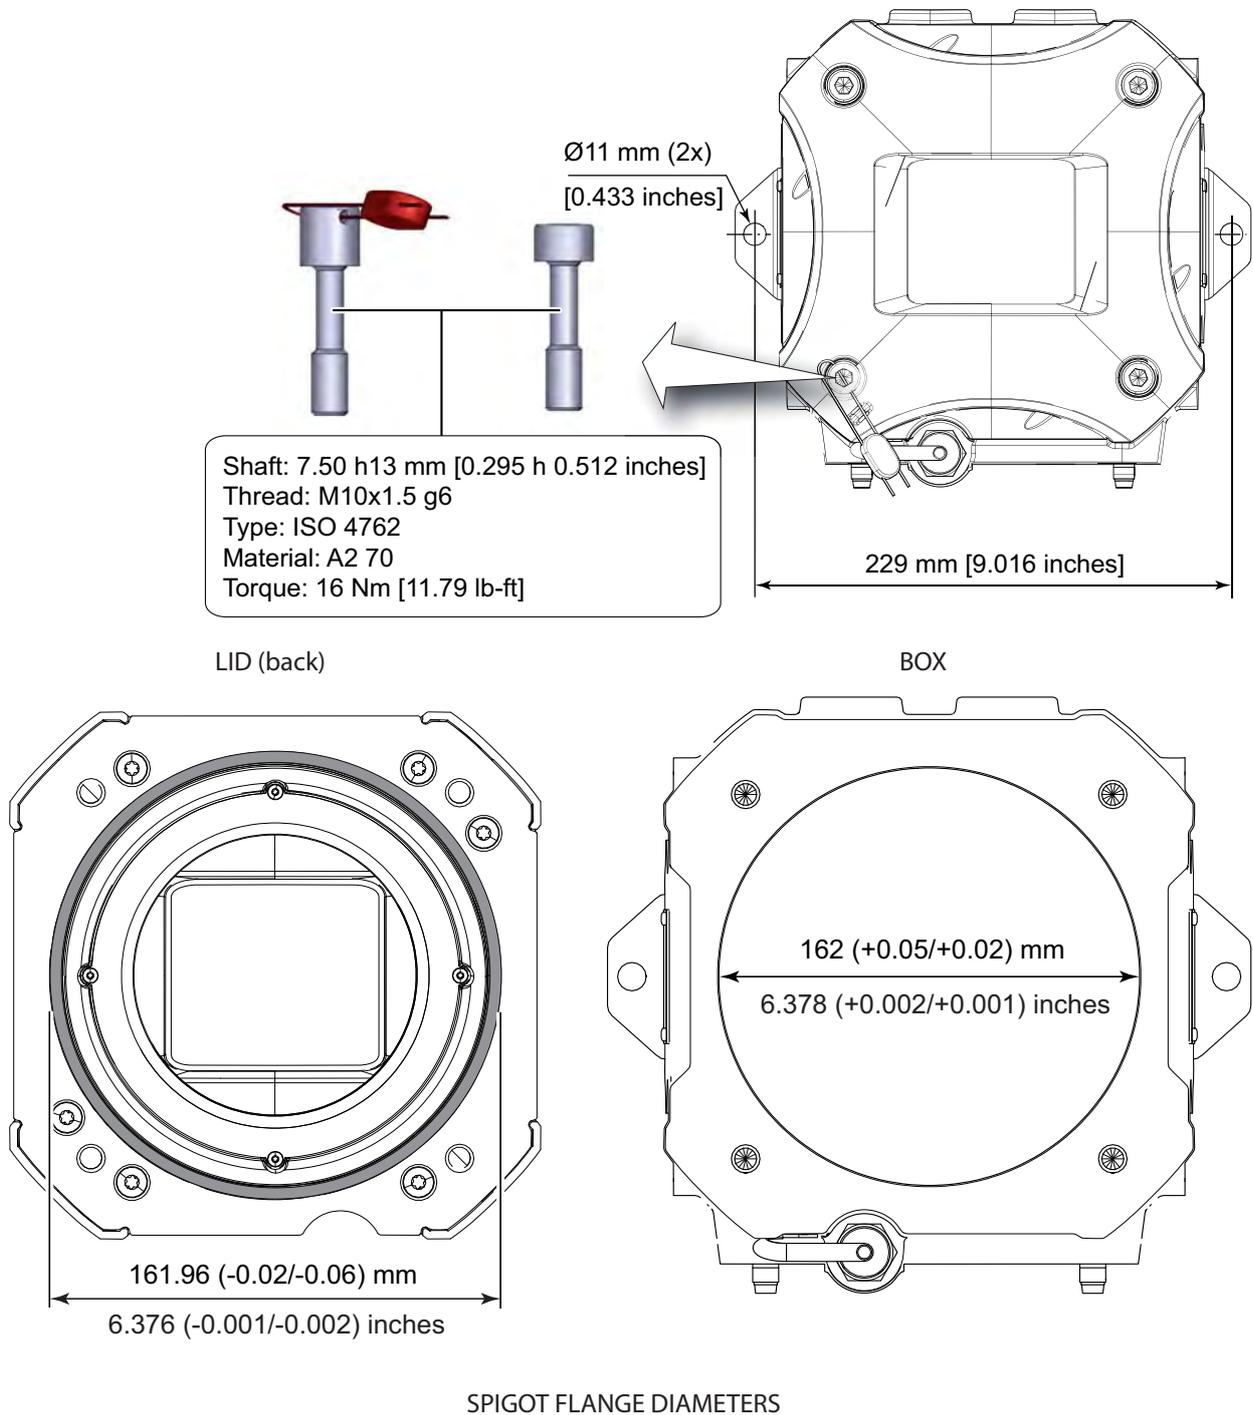

FIGURE 3-19
- Mounting facilities: 229 mm [9.016 inches] spacing, and allowing M10 fixing bolts (see FIGURE 3-19).